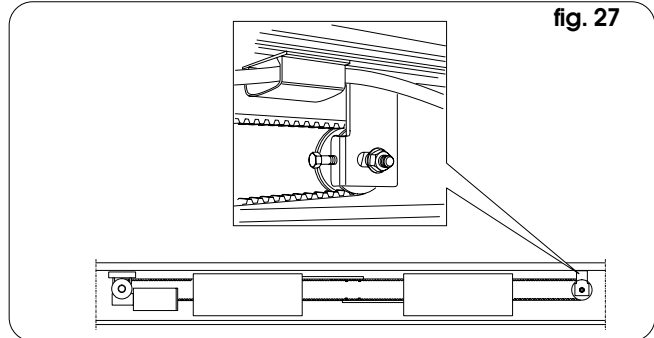

fig. 27
- Check if the belt is slack or too tensioned, and, if necessary, use the adjustment device as in fig.27: loosen the nut, adjust with the screw (screw to add tension, unscrew to loosen the belt), and then re-lock the nut.